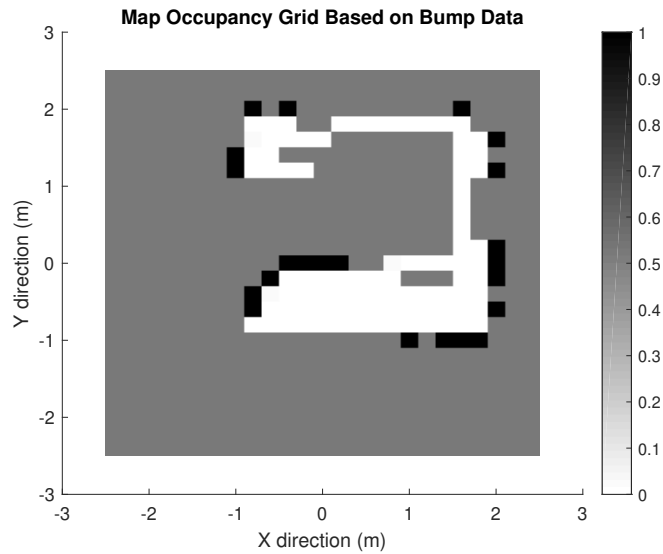

Figure 3: Bump Occupancy Grid at Timestep 2,[25x25]
4. Please see my Matlab programs for code! I made time step 1 to be $\frac{1}{3}$ of the robot trajectory, timestep 2 is $\frac{2}{3}$, and time step 3 is the whole trajectory. Figures 3 and 3 look nearly identical due to the robot trajectory changing direction in between the two time steps and so minimal useful data was collected there. There is a very clear distinction between 3 and 4 as the robot finishes it's trajectory.